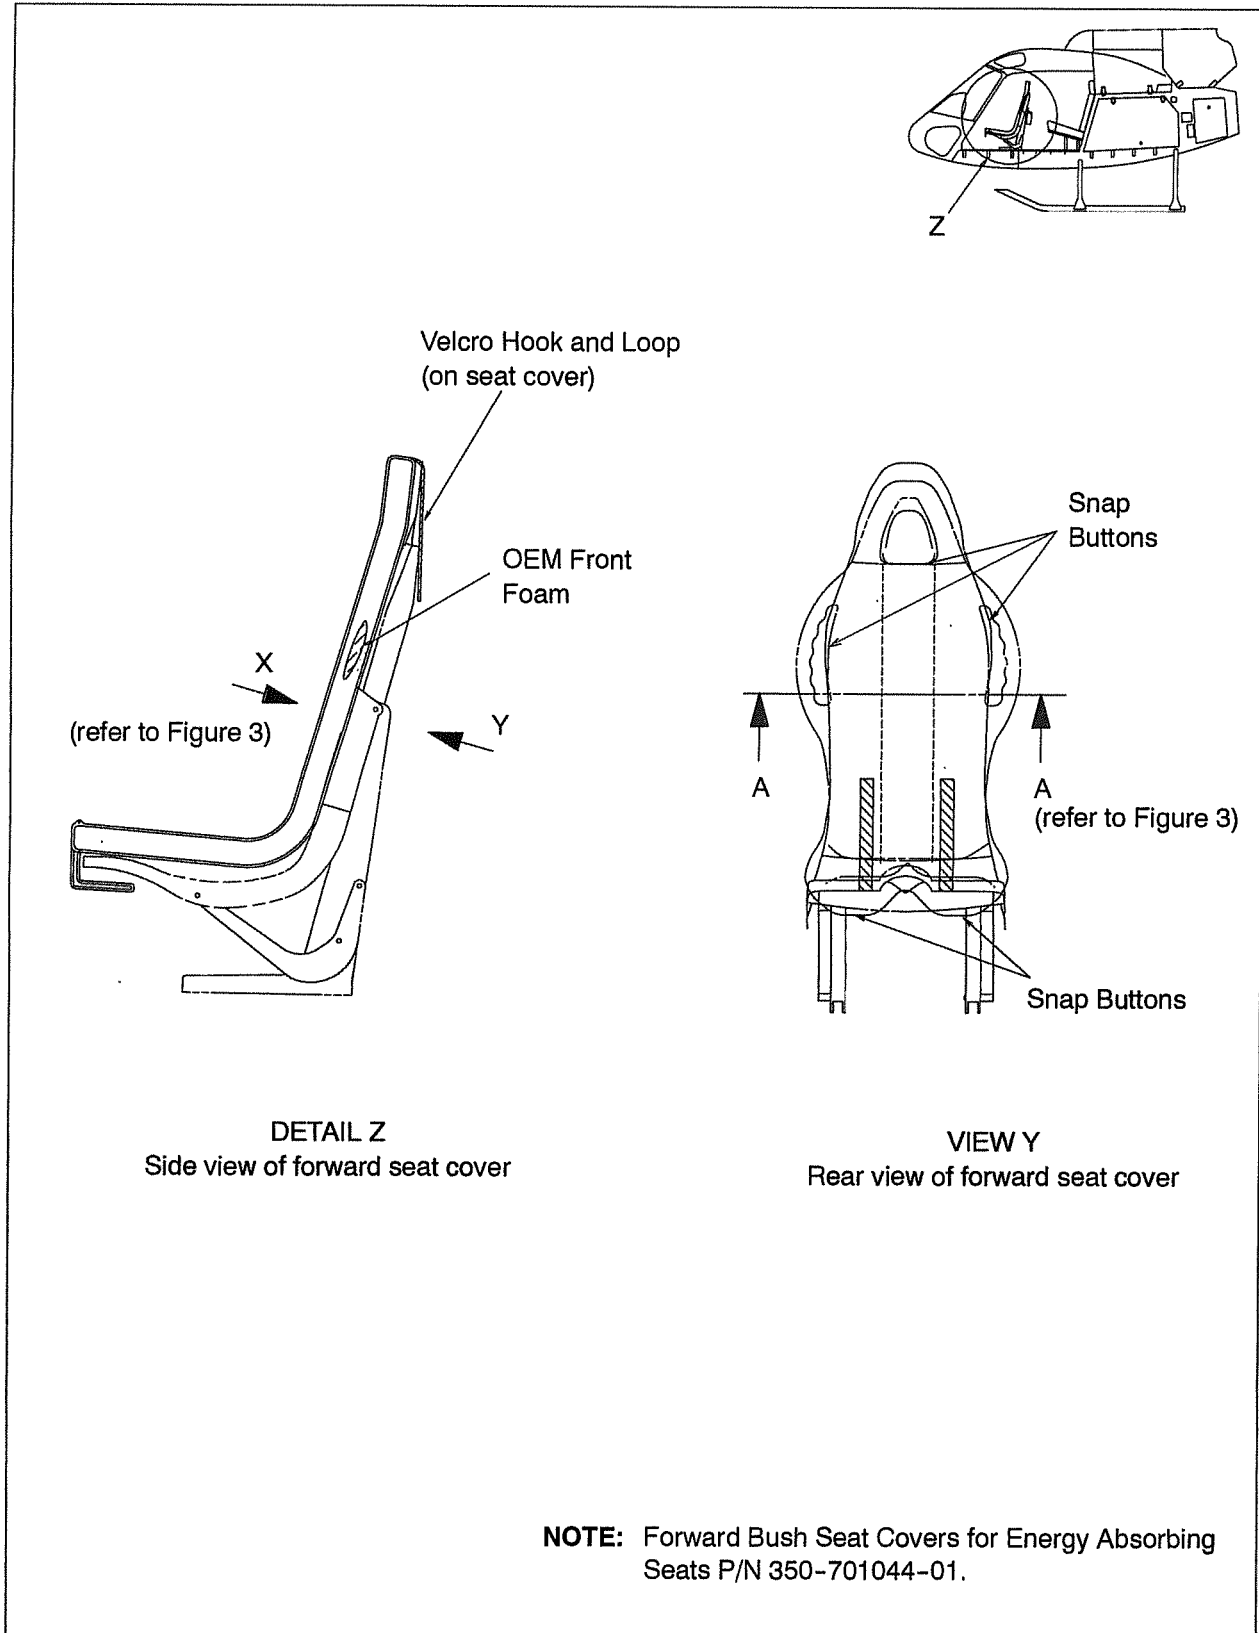

Figure 2 Forward Bush Seat Cover Details
1) FWD SEAT COVER (Refer to Figure 2)